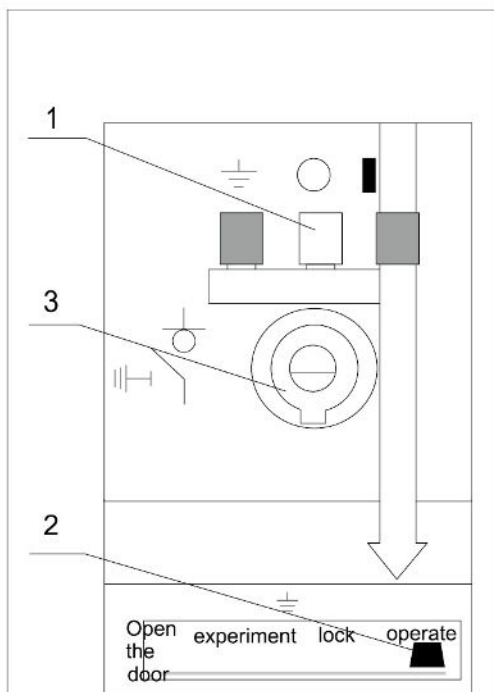

Figure 5
Place the load switch location indicator to the site shown in Figure5 (1). The selector is placed on the operation site, shown in Figure5 (2). Check the shaft ratchet which should be downwards as indicated in Figure5 (3). When the fuse is burned out or the electric operation makes the switch open, the slot is leftwards, operation handle need to be inserted to the hole, turn the slot anticlockwise to downwards (with "crack" sound). Insert the operation handle to the slot, then make the guidance key match the slot shafting, turn it with approximately 80 degrees clockwise until it is closed. If the switchgear is equipped with double-spring mechanism, when turn to the terminal point, increase strength to turn it until the switch is closed at one time.